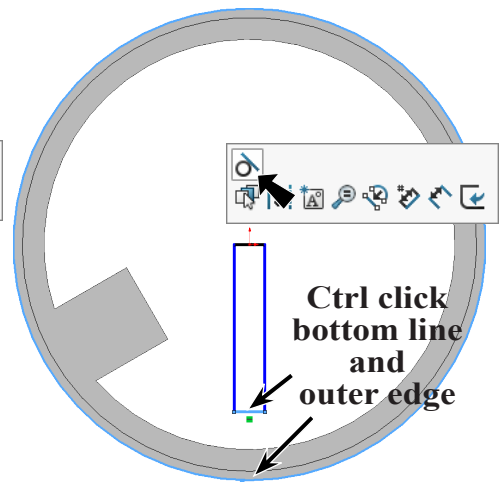

Fig. 70
Step 8. **Ctrl click bottom horizontal line of rectangle and outside edge of cylinder** to select both. Release Ctrl key and click **Make Tangent**  on the context toolbar, **Fig. 70**.